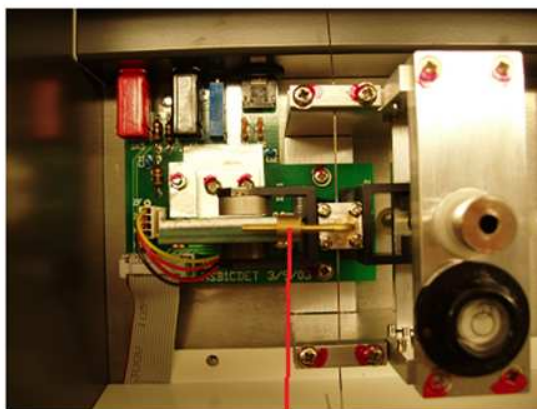

Figure 9
2. Switch the instrument to range x10, Figure 9.